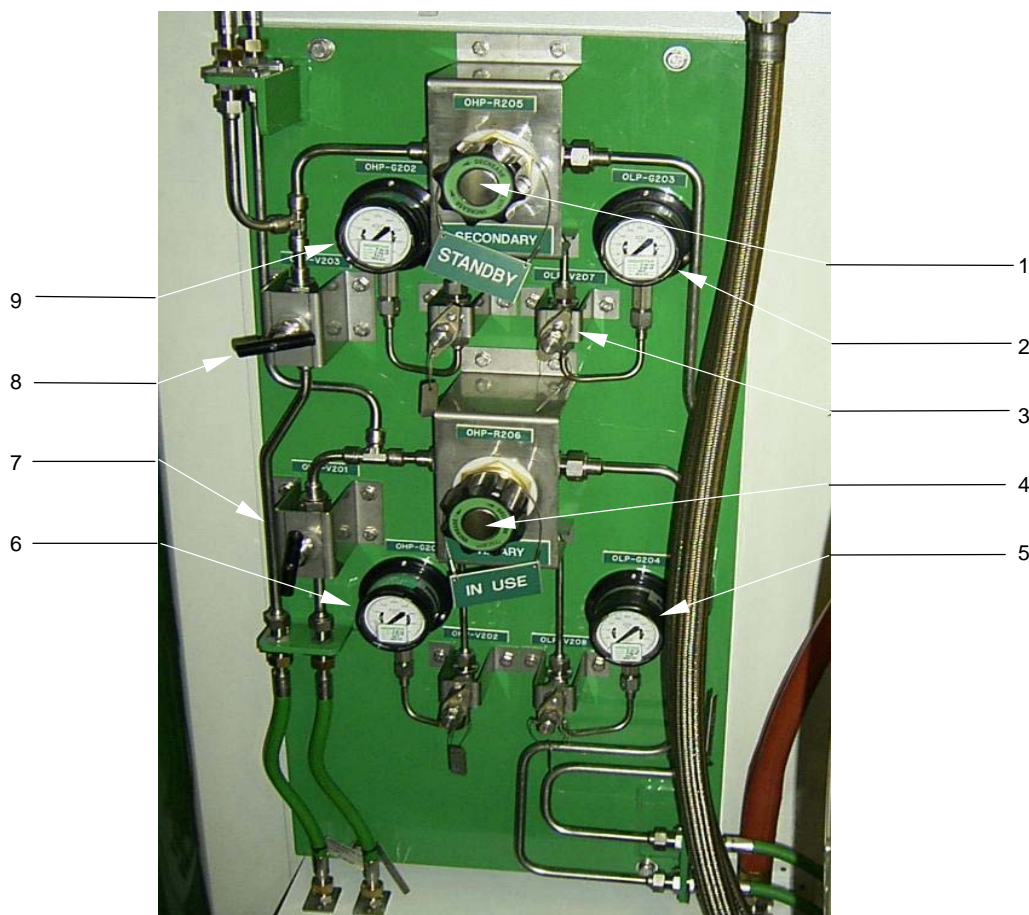

Figure 3-14. Oxygen (O2) Reducing Station
**3-2.6.3 Oxygen Reducing Station.** The Oxygen Reducing Station (see Figure 3-14) allows monitoring and regulation of primary and secondary oxygen flow to the chamber's Built-In Breathing System (BIBS).
**3-2.6.3.1 Primary and Secondary HP Oxygen Regulators.** The oxygen pressure regulators are spring-loaded, diaphragm-controlled, air pressure control devices. Once set, the regulator will maintain a constant outlet pressure over a wide range of inlet pressures and outlet flow rates. In Figure 3-14, item 4 (OHP-R-206) is the Primary HP Oxygen Regulator and item 1 (OHP-R-205) is the Secondary HP Oxygen Regulator.
**3-2.6.3.2 Primary and Secondary LP Oxygen Supply Gauges.** These gauges indicate the outlet pressure at the downstream side of the primary and secondary oxygen reducing stations. These gauges are used while setting the primary and secondary reducers and to monitor the LP oxygen system during operation. In Figure 3-14, item 5 (OLP-G-204) is the Primary LP Oxygen Supply Gauge and item 2 (OLP-G-203) is the Secondary LP Oxygen Supply Gauge.
**3-2.6.3.3 Primary and Secondary HP Oxygen Supply Gauges.** These gauges indicate the pressure at the inlet side of the oxygen reducing valves. These gauges will reflect the pressure at the outlet of the online oxygen air bank or other supply system during operation of the recompression chamber. In Figure 3-14, item 6 (OHP-G-201) is the Primary HP Oxygen Supply Gauge and item 9 (OHP-G-202) is the Secondary HP Oxygen Supply Gauge.
**3-2.6.3.4 Primary and Secondary HP Oxygen External Supply Shutoff Valves.** These 1/2" needle valves are used to isolate the outside HP oxygen source from the reducing station. In Figure 3-14, item 7 (OHP-V-201) is the Primary HP Oxygen External Supply Shutoff Valve and item 8 (OHP-V-203) is the Secondary HP Oxygen External Supply Shutoff Valve.
**3-2.6.3.5 Oxygen Reducing Station Gauge Isolation Valves.** The gauge isolation valves are mounted in the supply piping to each gauge in the system. These isolation valves are designed to act as stop valves or as a test fitting to allow for testing the gauge in place. In Figure 3-14, item 3, the Secondary LP Oxygen Gauge Isolation Valve (OLP-V-207), is a representative example. See Figure 2-7 for the names and locations of all Oxygen Reducing Station gauge isolation valves.